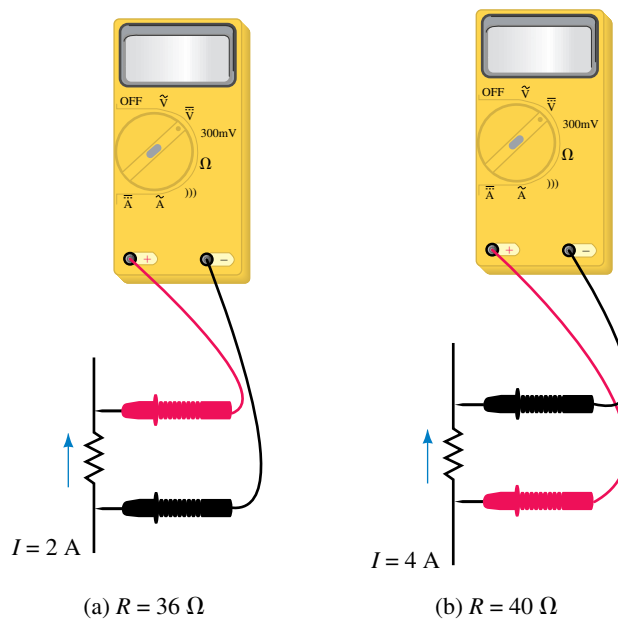

FIGURE 5–56
3. All resistors in Figure 5–57 are $15\ \Omega$. For each case, determine the magnitude and polarity of voltage V .